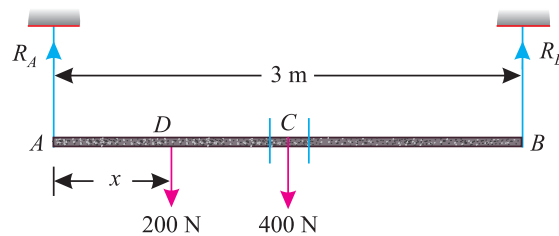

Fig. 4.3.
**Solution.** The system of given forces is shown in Fig. 4.3.